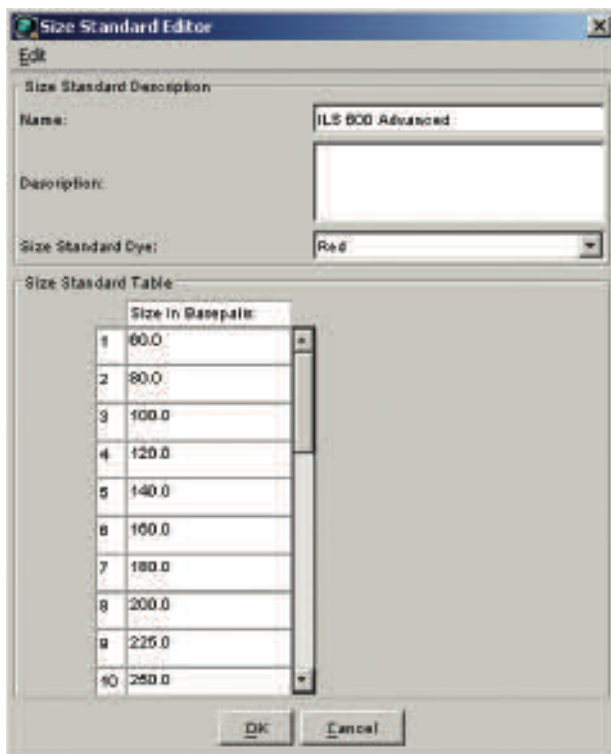

Figure 4. The Size Standard Editor.
- Enter a detailed name, such as “ILS 600 Advanced”, in the Size Standard Editor (Figure 4).